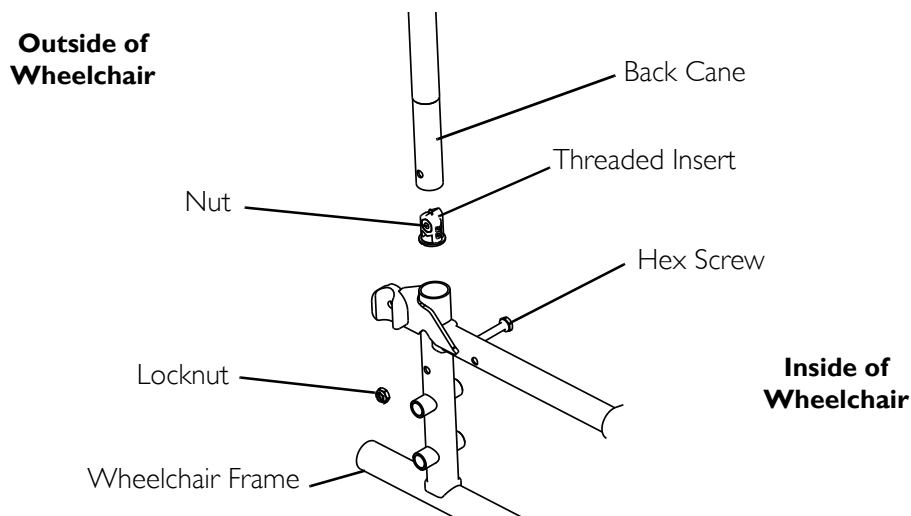

FIGURE 6.1 Installing the Back Canes
NOTE: For this procedure, refer to FIGURE 6.1.
4. Position the hex screw through the wheelchair frame, back cane, and threaded insert as shown in FIGURE 6.1.